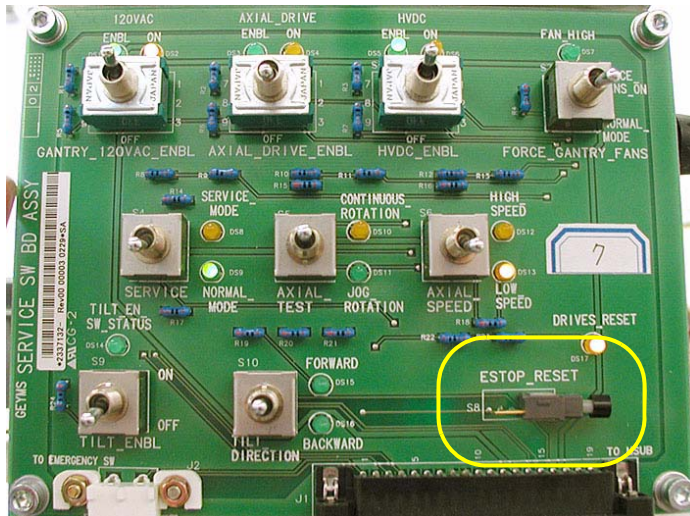

Figure 4-19 Service Switch Panel
- 5.) Push the Service Switch Panel reset button. (See Figure 4-19.)